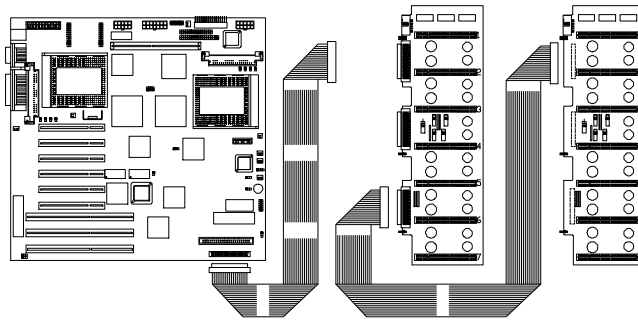

Figure 3-38 SCSI Cable Connections
5. Connect one end of the SCSI cable to SCSI channel out of the left backplane board and the other end to SCSI channel 1 of the right backplane. See Figure 3-38.